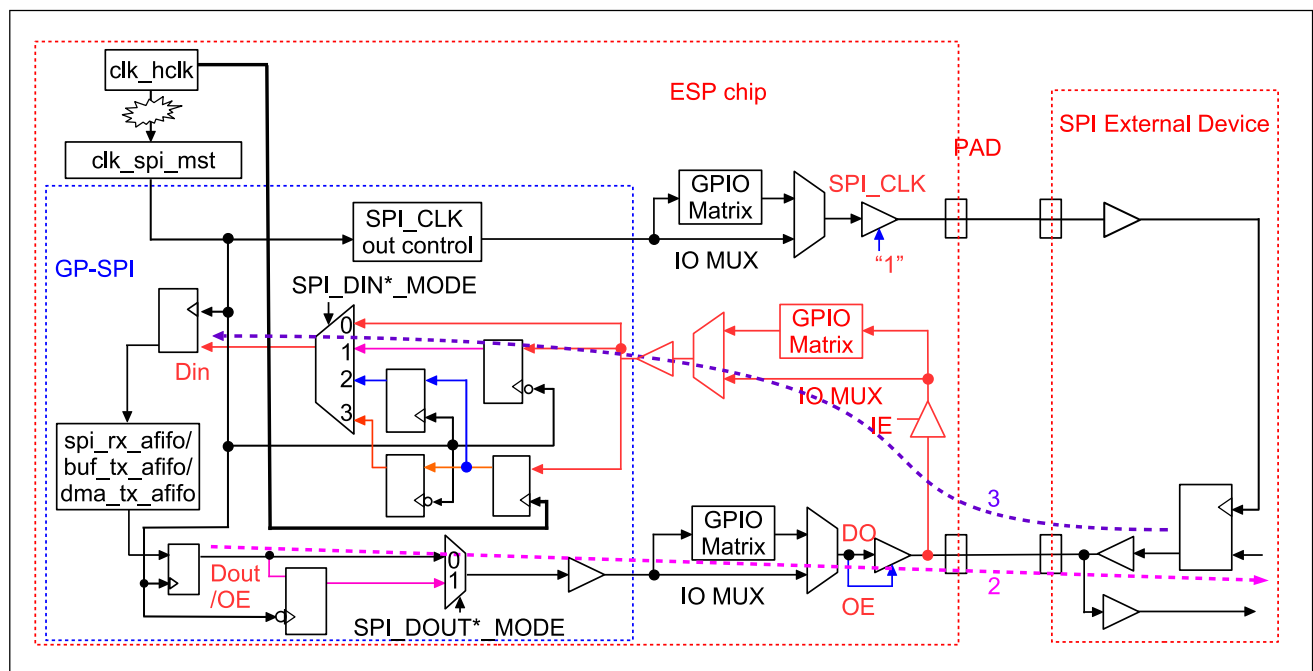

Figure 33.8-1. Timing Compensation Control Diagram in GP-SPI as Master
Figure 33.8-1 shows the timing compensation control for GP-SPI2 as master, including the following paths:
- “IN”: data input path of GP-SPI2 (see line 3 path in color purple in Figure 33.8-1). The input data from an external SPI device passes through GPIO matrix or IO MUX, then is adjusted by the Timing Module (see Figure 33.5-2) and finally is stored into `spi_rx_afifo`.
- “OUT”: data output path of GP-SPI2 (see line 2 path in color rose-red in Figure 33.8-1). The output data is sent out to the Timing Module, passes through GPIO matrix or IO MUX and is then captured by an external SPI device.